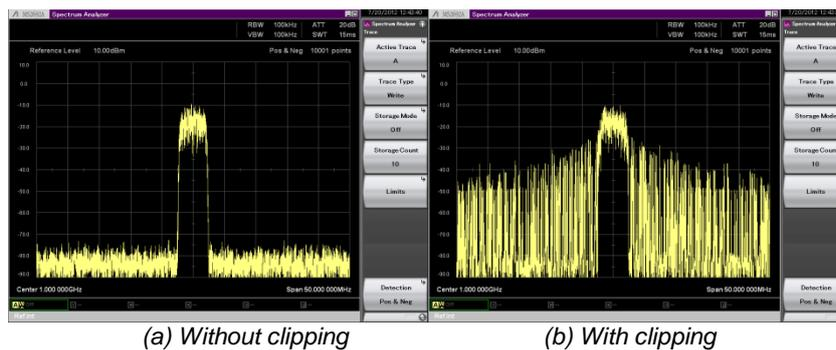
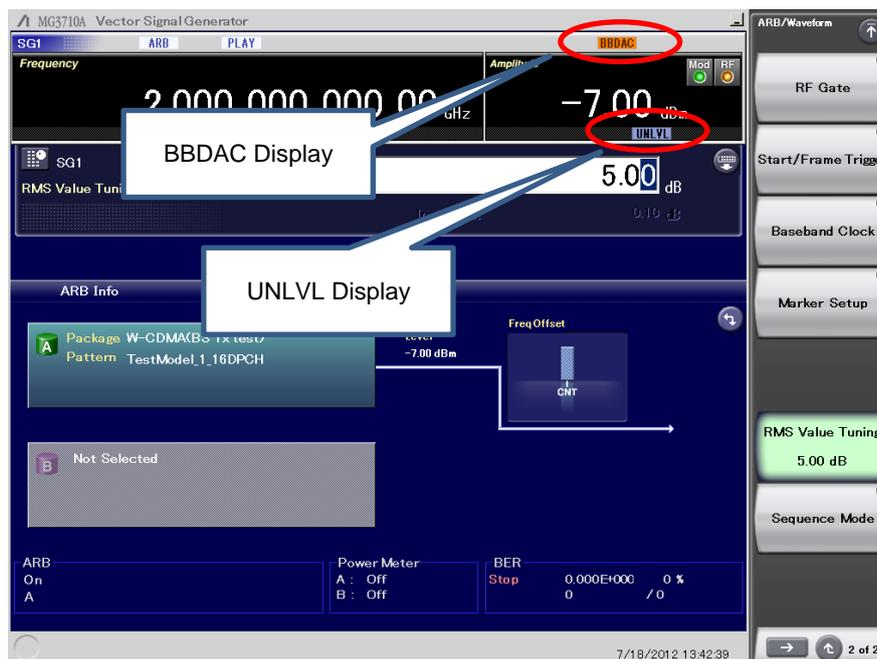

Figure 14. Spectrum With and Without Clipping Effect
Figure 15. BBDAC and UNLVL
- If the RMS Value Tuning setting is too large, sometimes waveform data clipping occurs in the baseband block. If clipping occurs, BBDAC is displayed in the MG3710A warning field and large spurious occurs. Select the RMS Value Tuning setting to prevent clipping (Figure 14, Figure 15).
- Sometimes UNLVL is displayed in the Amplitude display when adjusting the RMS Value Tuning setting. This indicates that the output level is out of the guaranteed range. If UNLVL is displayed, it is necessary to confirm that the correct level is output using a power sensor, etc. (Figure 15).
- If the RMS Value Tuning setting is too large, sometimes waveform data clipping occurs in the baseband block. If clipping occurs, BB DAC is displayed in the MG3710A warning field and large spurious occurs. Select the RMS Value Tuning setting to prevent clipping (Figure 14, Figure 15).